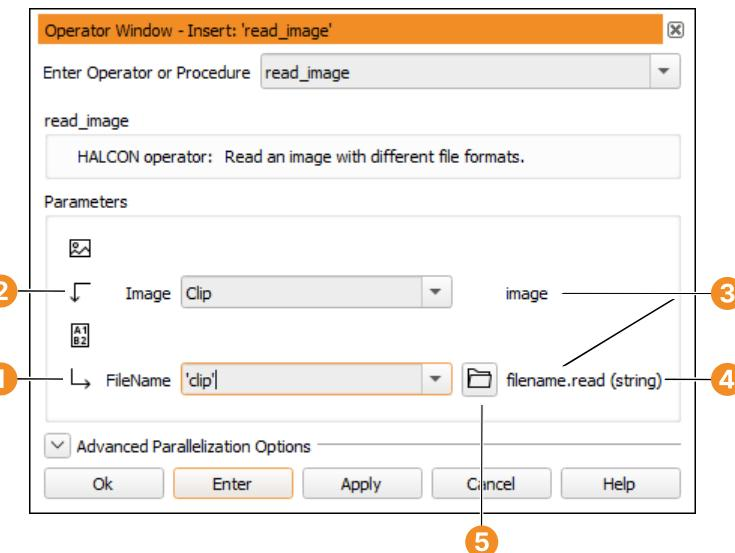

Figure 4.3: Specifying parameters.
After selecting an operator, its parameters are displayed in the operator window. They are grouped by iconic and control parameters. The icons next to the parameter names denote the parameter type: Input (2) vs. output (see figure 4.3). The semantic type is displayed to the right of the parameters. Parameters are specified in the text fields. The first parameter gets the input focus.